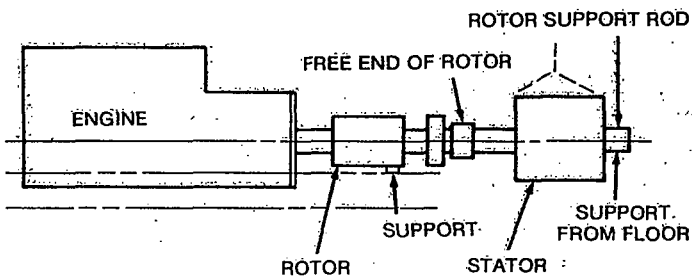

FIGURE 21. STATOR INSTALLATION
4. Using hoist and sling, slide stator in place. See Figure 21.